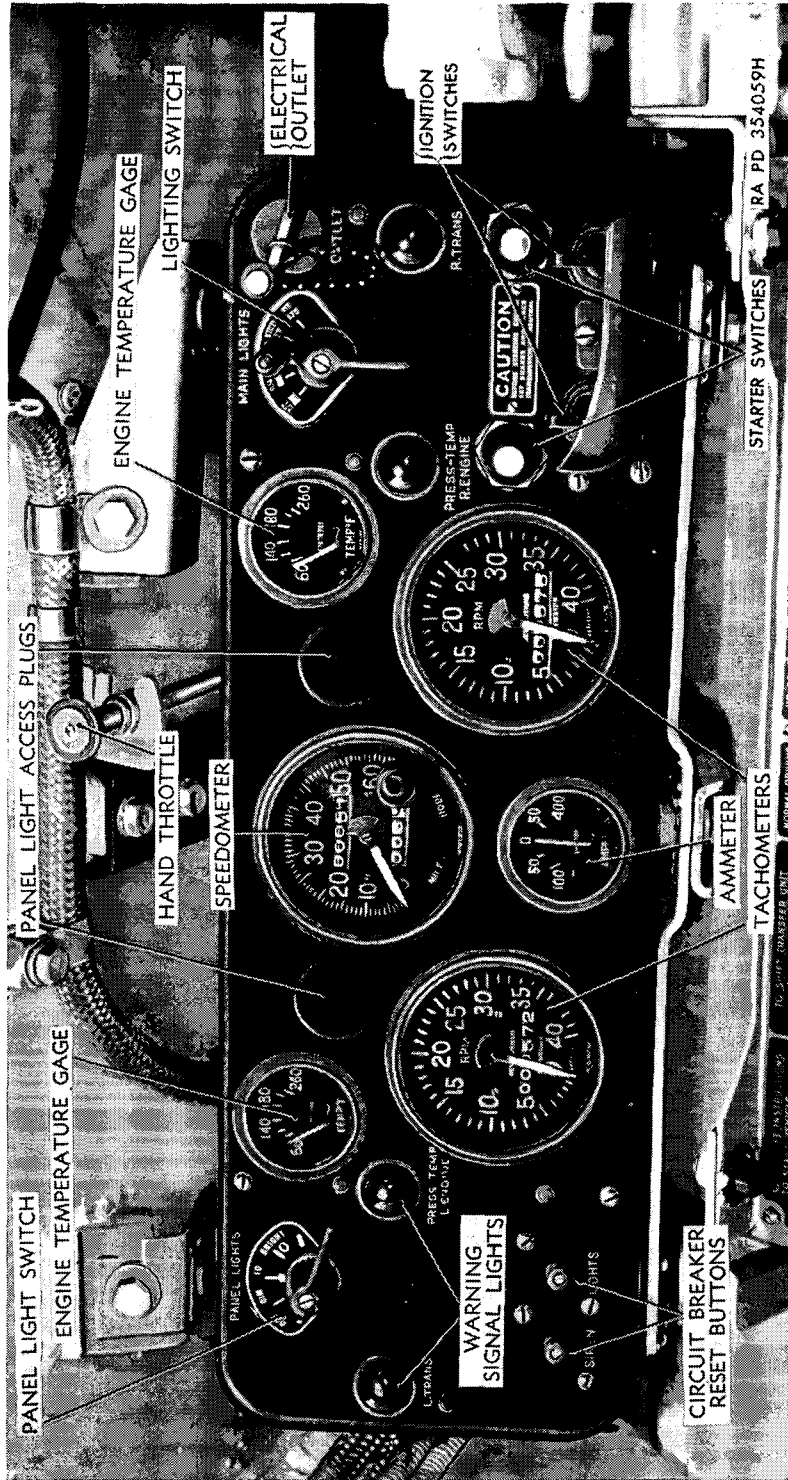

Figure 6. Instrument panel.
u. INSTRUMENTS (fig. 6).
- (1) *Warning signals.* Do not drive vehicle while engine or transmission warning signal lights are on.
- (2) *Ammeter.* Ammeter should show slight positive (+) charge at engine speeds above 1,100 rmp. High charge may be indicated until generator restores to battery current used in starting.
- (3) *Engine temperature gages.* Engine temperature should rise gradually during warm-up to normal operating range, 160° to 210° F. Maximum safe operating temperature is 240° F. at which point the red warning signal lights.
- (4) *Tachometers.* These instruments should register the engine speeds in revolutions per minute and record accumulating engine revolutions.
Note. The wiring is so arranged (in series) that this "emergency ignition" switch must be kept in the "ON" position in order that the regular ignition switches on the instrument panel may function (fig. 6).
Two ignition switches, one for each engine, are located in the lower right corner of the instrument panel and are protected from accidental operation or damage by a sheet metal guard (fig. 6). These switches have two positions: "OFF," with the switch levers vertical and "ON," with the levers turned 90° clockwise. The right and left switches are for the right and left engines respectively. When the ignition switches are turned on, the warning lights light up.
The two starter switches are located in the lower right side of the instrument panel (fig. 6). Start both engines at the same time (except in extremely cold weather) by pressing both starter switch buttons.
The main lighting switch, located at the upper right of the instrument panel (fig. 6) is in the "OFF" position when the handle is vertical. Turning the switch counterclockwise to its first position turns on the blackout marker lights (labeled BO MK). Turning counterclockwise to the second position turns on the blackout driving light in addition (labeled BO DR), provided the blackout driving light is installed in place of the left headlight. Turning the switch to the first clockwise position from the "OFF" position provides for operation of the stop light for daytime driving (labeled STOP LT). Turning it to the second clockwise position turns on the headlights (labeled HD LTS). In order to move the switch to the clockwise positions, it is necessary first to depress the lock-out button at the top of the switch. The intensity of illumination of the instrument panel lights is controlled by a lever type switch handle at the upper left of the instrument panel (fig. 6). There are four interior lights. Two are located in the hull top, one above and forward of assistant driver and one between the driver and assistant driver. Two are located in the top of the turret. Each light has two lamps and two lenses, clear and red, which can be selected by means of the individual switch provided in each unit. The red light is normally used; to turn on the white light it is necessary first to release the stop.